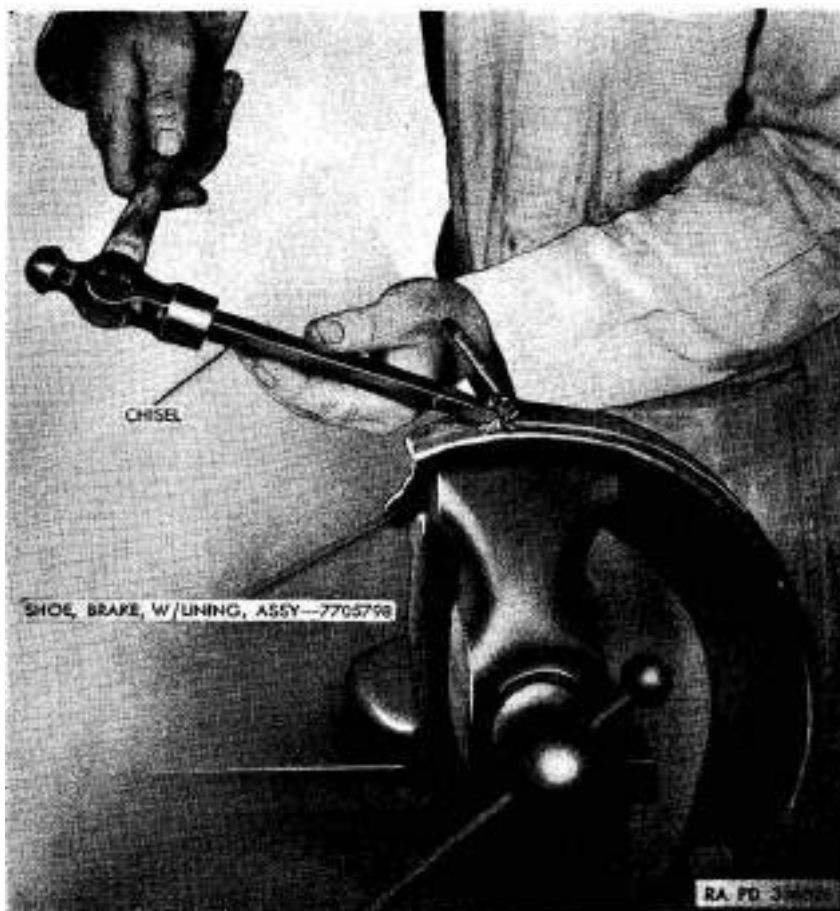

Figure 150. Removing cement-bonded-type brake lining with chisel.
e. *Remove Brake Shoe Cam Adjuster and Brake Shoe Cam.* If inspection (par. 168) reveals that replacement of the brake shoe cam adjuster (K) and brake shoe cam (Z) is necessary, grind riveted end from adjuster. This will release the brake shoe cam, brake shoe cam compression spring (J), and $\frac{1}{4}$ -inch plain washer (L).
f. *Remove Cement-Bonded-Type Brake Lining from Brake Shoes.* If inspection (par. 168) reveals that replacement of original cement-bonded-type brake lining is necessary, remove brake lining from brake shoes with a hammer and chisel (fig. 150). When lining is removed with a hammer and chisel, care must be exercised to prevent damage to brake shoes. The cement that remains after brake lining is removed can be dressed from brake shoes with a belt-type grinder.